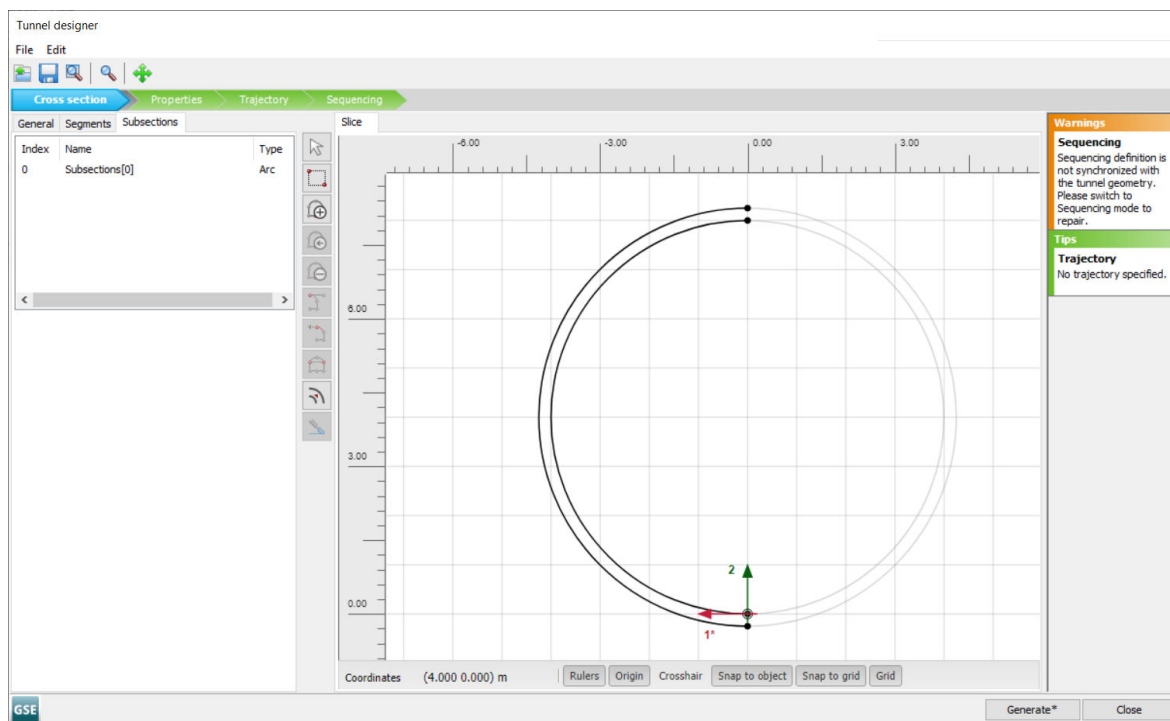

Figure 64: Generated thick lining
The generated lining is displayed on the *Drawing area* in Figure 64 (on page 91).
2. Click on the **Slice** tab (above the *Drawing area*) and right-click on the outer surface of the TBM. From the appearing menu select **Create** > **Create plate** (see Figure 64).